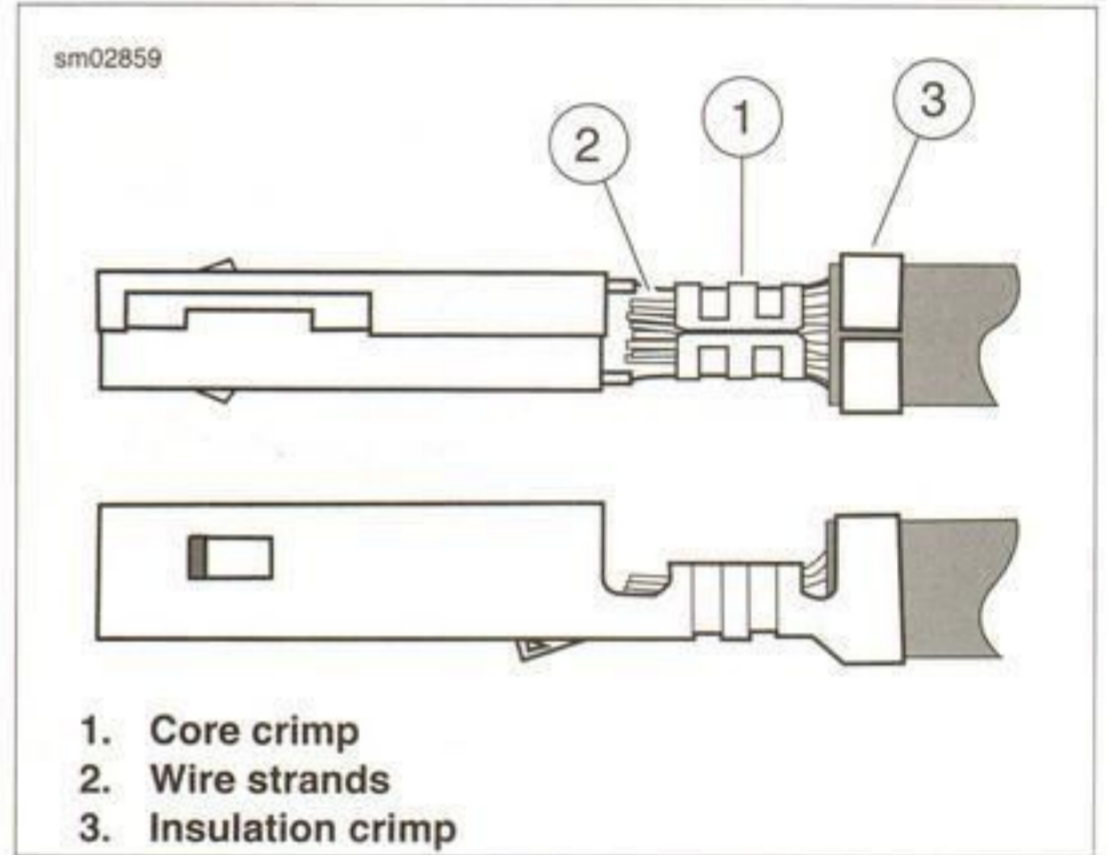

Figure A-36. Terminal Crimp
- a. See Figure A-36. The core tails should be creased into the wire strands at the core crimp (1).
- b. Strands (2) of wire should be visible beyond the core crimp but not forward into the terminal shell.
- c. The insulation tails should be folded into the insulation (3) without piercing or cutting the insulation.